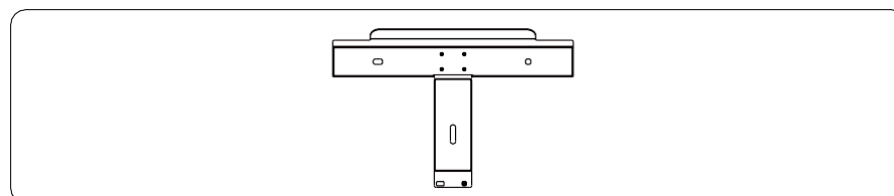

Figure 4.9 The rear panel (unit: mm)
**Step 1** Move out the rear panel from the packing case, and determine the positions for the inverter and the support, shown as in Figure 4.9.